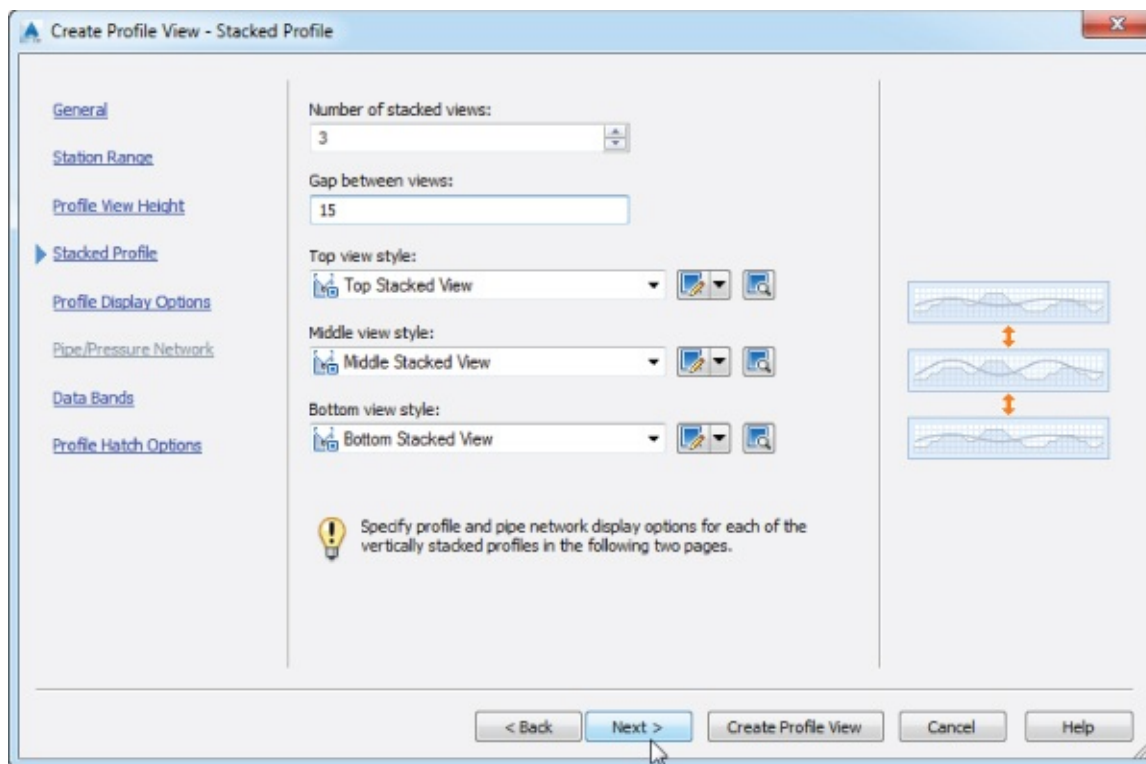

Figure 7.46 The Create Profile View – Stacked Profile wizard page
9. Set the view styles to Top Stacked View, Middle Stacked View, and Bottom Stacked View, as shown in Figure 7.46. Click Next.